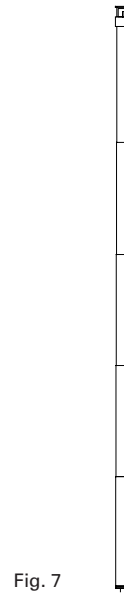

Fig. 7
4. Extend the telescoping probe to your desired length, up to 41"/104 cm (refer to Fig. 7).